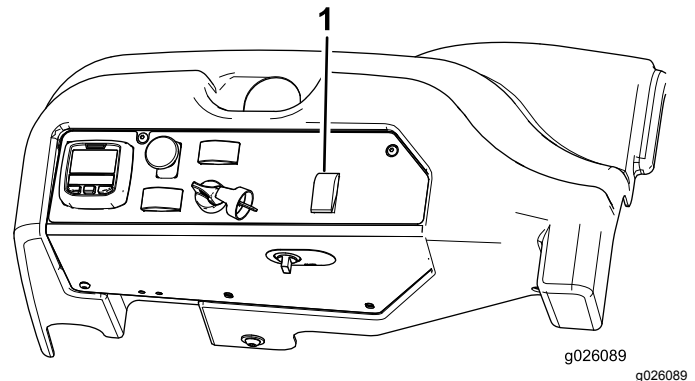

Figure 59
1. Press the steering selector switch to the rearward 4-wheel-steer position (Figure 59).